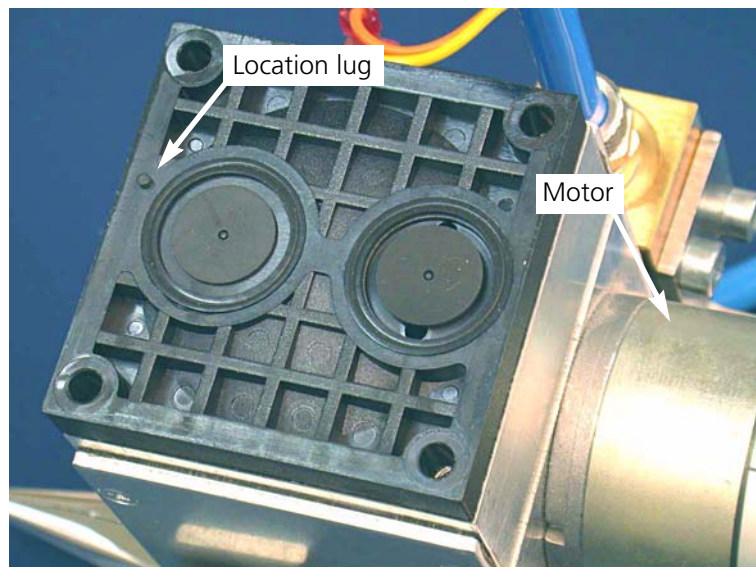

Figure 11-178. The valve block, correctly positioned on the compressor
6. Place the valve block on top of the compressor, making sure that the location lug is positioned away from the motor. (Figure 11-178.)